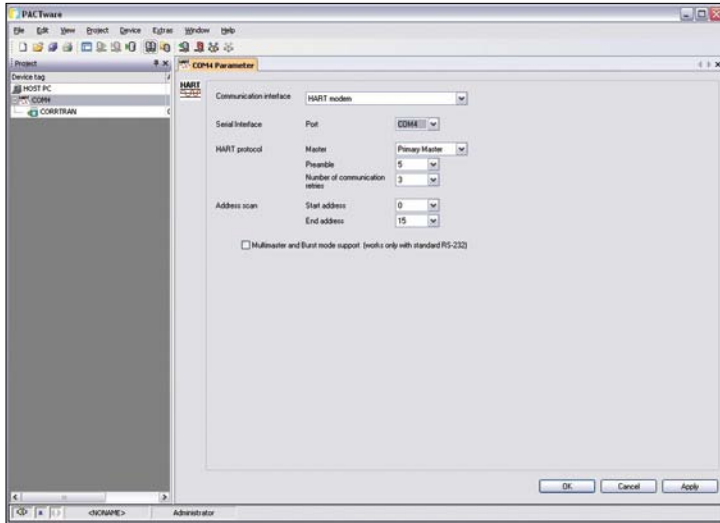

Figure 30. HART Modem USB Connected to a Different COM Port
- Change to the proper com port, as seen in Figure 30, and click on apply. (Please note: RS-232 ports are usually com 1.)